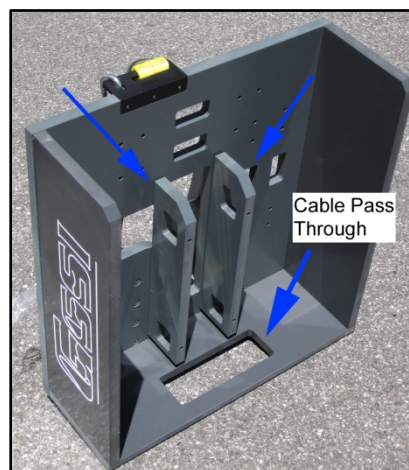

Figure 13: Mount with 900 MHz brackets (Antenna not shown).
- 2** Attach the antenna to the mount. Position the antenna so that the antenna connectors face forward and line up with the cable pass through (Figure 13). Identify the correct set of holes on the mount and secure the antenna to the mount with (4) M5x30 hex (Allen) bolts and washers. Run the control cable through the cable pass through and attach to the antenna. Be sure to secure any loose control cabling in the cable restraint to prevent it from catching on obstructions.